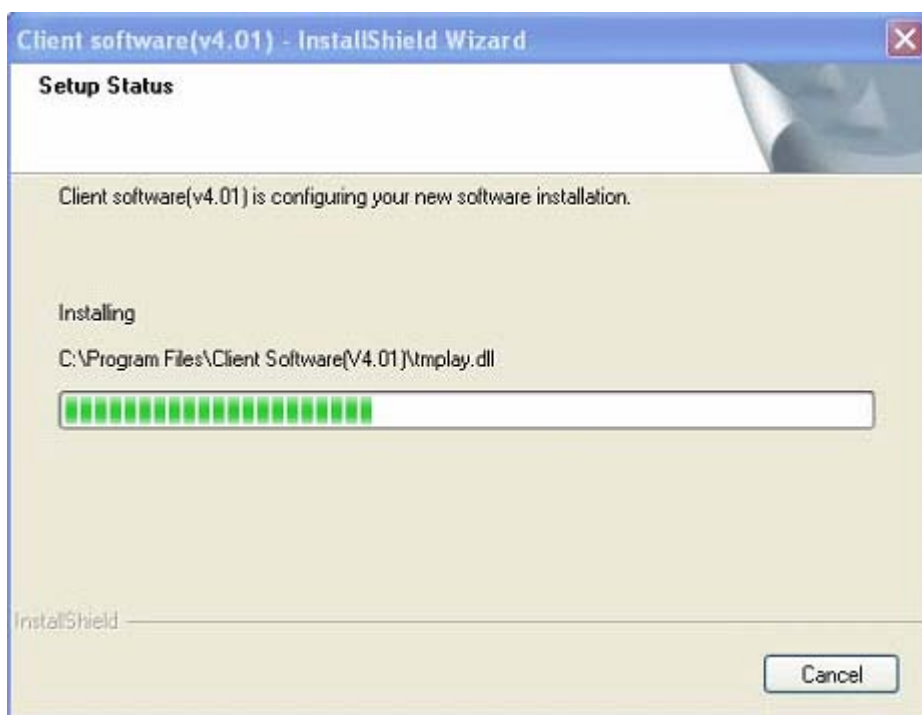

Fig2.4.6 Install Process
Step5: Click "Install" to start installation shown as Fig2.4.6.